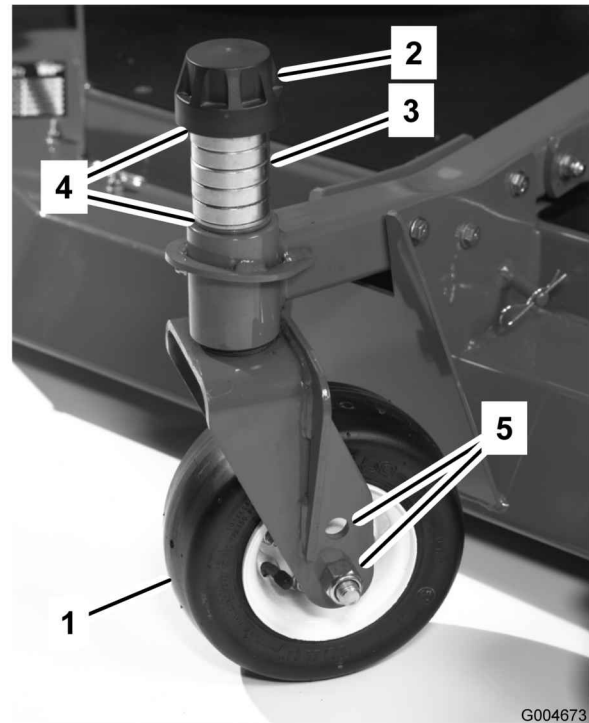

Figure 79
1. Remove the tensioning cap from the spindle shaft and slide the spindle out of the castor arm (Figure 79). Reposition the shims, as required, to raise or lower the castor wheel until the cutting unit has the correct pitch.